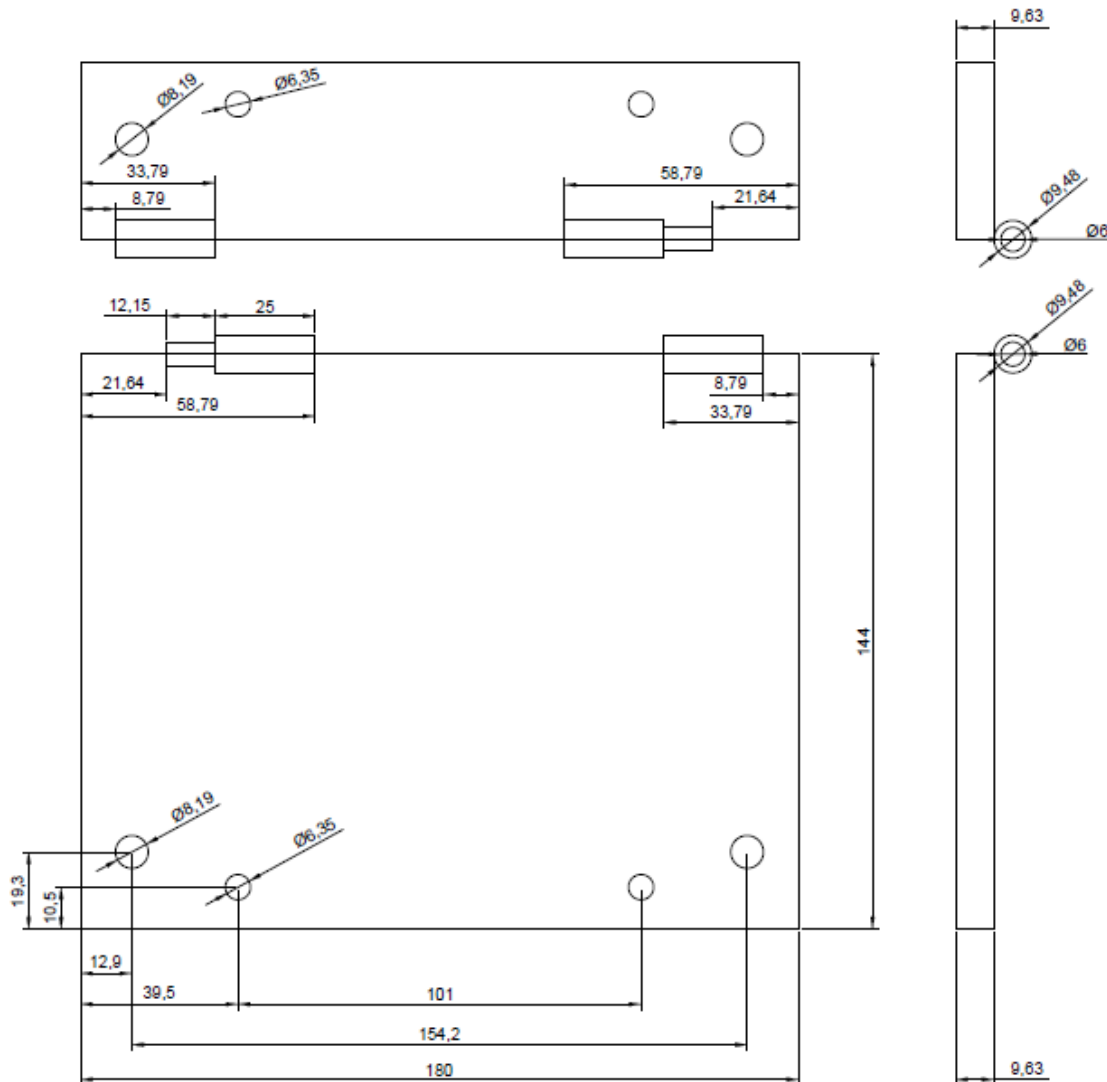

Figure 7: 3D Drawing of the plate.
- 5- Fix the articulated Plate specified in Figure 7.